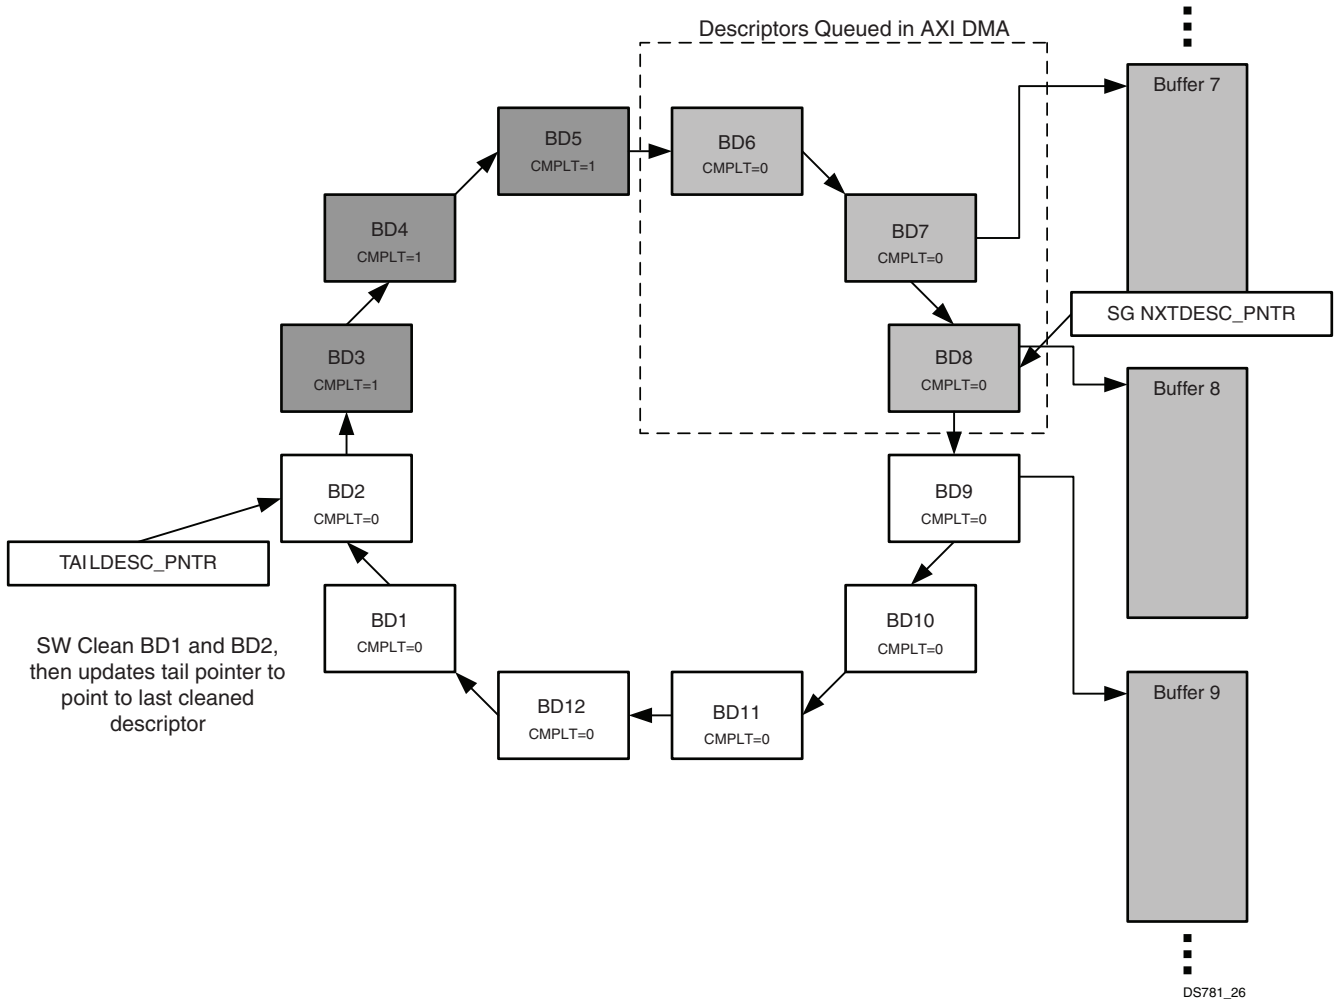

Figure 4-16: Descriptors Re-Allocated
4. Descriptors re-allocated (DMACR.RS=1), as shown in Figure 4-16.